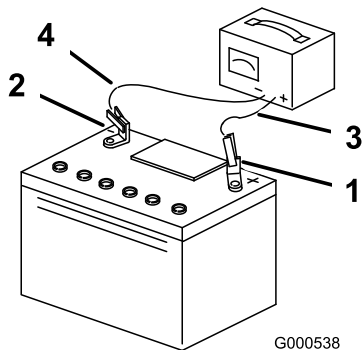

Figure 41
5. When the battery is fully charged, unplug the charger from the electrical outlet, and disconnect the charger leads from the battery posts (Figure 41).